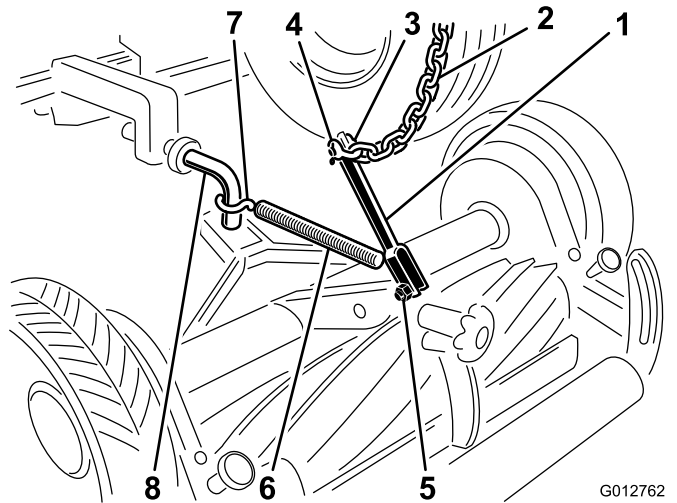

Figure 17
2. Secure lift bracket to #1 lift chain (rear center) with a long shackle, clevis pin and cotter pin (Figure 17).
3. Secure lift bracket to mower mounting bracket with a 3/8 x 1-1/2 inch capscrew and 3/8 inch locknut (Figure 17). Use bottom mounting hole in lift bracket.
4. Hook spring to upper mounting hole in lift bracket and other end of spring to lift bail with S-hook (Figure 17).